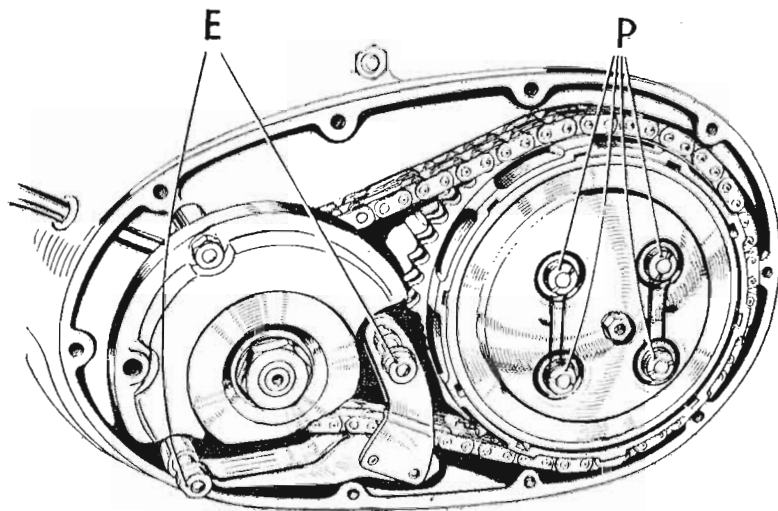

Fig. 14. The primary transmission and clutch.
When the two lower generator retaining nuts (E) Fig. 14 are slackened, the position of the slipper can be altered to give the correct tension.
Remove the four spring retaining nuts (P) Fig. 14, and withdraw the springs and their cups. The pressure plate and the remaining clutch plates can then be withdrawn, and if these are the only items requiring attention, the clutch need not be dismantled further. The steel plates should be smooth, and if badly scored, they should be replaced. The segments on the driving plates are bonded in position, and will not normally require replacing for a considerable mileage.
must be reset carefully. The four retaining nuts (P) Fig. 14, should be screwed in until the underside of the head of each nut is approximately $\frac{1}{16}$ in. from the face of a spring cup. The figure is an arbitrary one and it is a simple matter to vary it according to circumstances. If the springs are compressed excessively, the handlebar lever will be stiff to operate and tiring to the hand; alternatively, if the spring pressure is insufficient, the clutch will tend to slip.